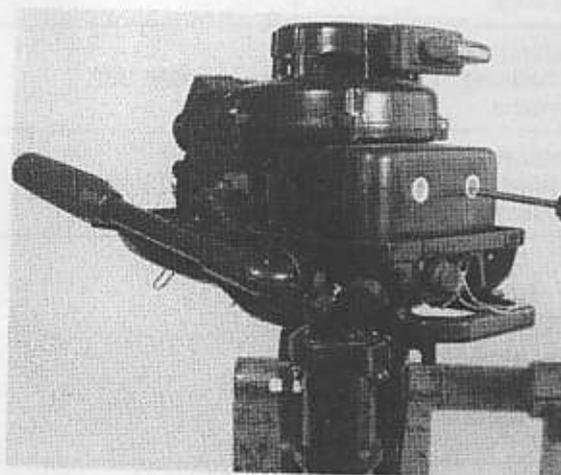

Fig. 2
3. Dismount the intake silencer (Fig. 2).